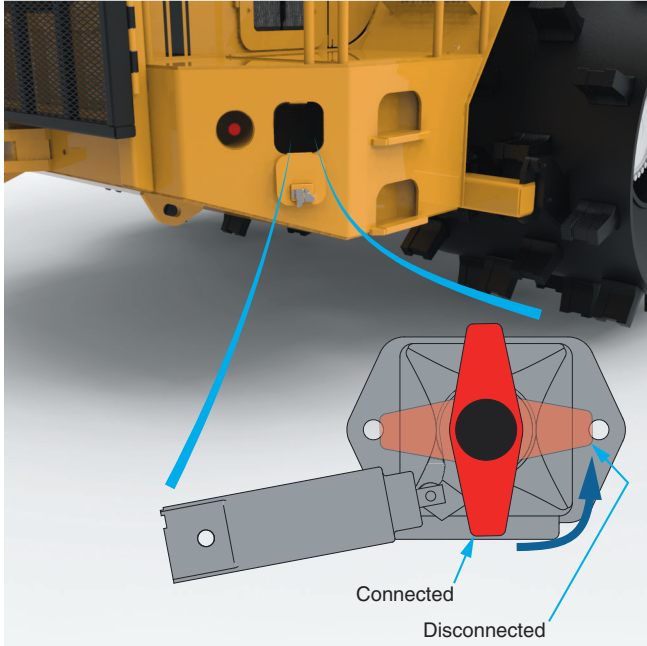

Figure 5-1-2 Battery Disconnect Switch Location
Always set the battery disconnect switch to "OFF" before performing any welding. The battery disconnect switch is located on the right side of the machine behind the boarding stairs, accessed behind a guard door (see Figure 5-1-2). Turn the switch counterclockwise to disconnect the batteries.
- Set Battery Disconnect Switch to OFF (see Figure 5-1-2).